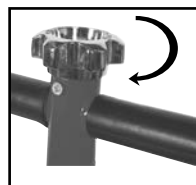

Fig.15
- Slowly turn the release knob (1) counter-clockwise to lower the vehicle onto the jack stands [Fig 15].